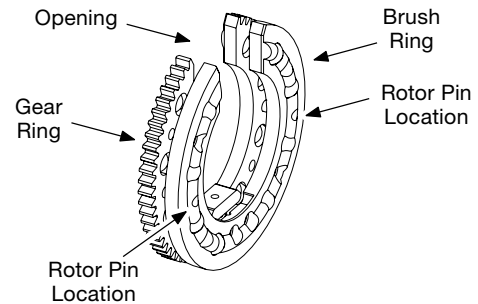

Figure 35 Placing the Rotor on the Work Surface
2. Place the rotor on a clean, dry surface with the rotor opening facing up. Separate the gear ring from the brush ring. See Figure 35.